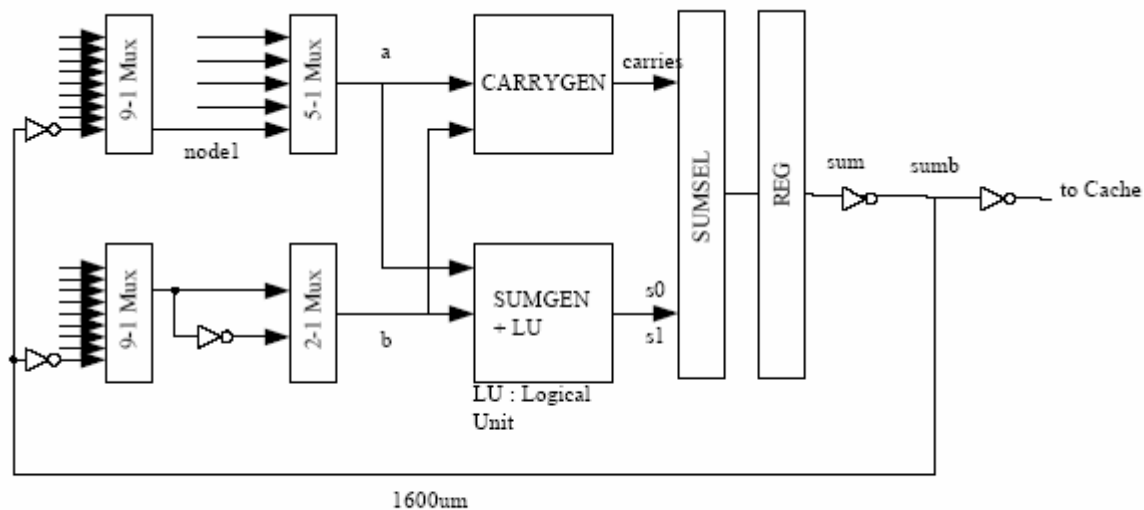

Figure 1. ALU high-level block diagram.
The high-level block diagram of a high-performance ALU is shown in Figure 1.
- **Arithmetic block:** This block is used to perform arithmetic operations such as addition, subtraction and comparison. The core of the arithmetic block is an adder. In the architecture presented in Figure 1, the adder uses carry look-ahead and sum-select techniques (the blocks labeled CARRYGEN, SUMGEN and SUMSEL).
- **Logic block:** This block is used to perform simple bitwise logic operations such as AND (masking), OR and XOR (the block labeled LU in Figure 1)
- **Multiplexers:** These blocks are used to select the appropriate inputs for the arithmetic and logic blocks. Usually more than two buses arrive at the inputs of the ALU (9 buses in Figure 1, selected by 9:1 MUX's). Sometimes these multiplexers are used to perform some simple logic operations. The 5:1 MUX is a programmable shifter: its inputs contain